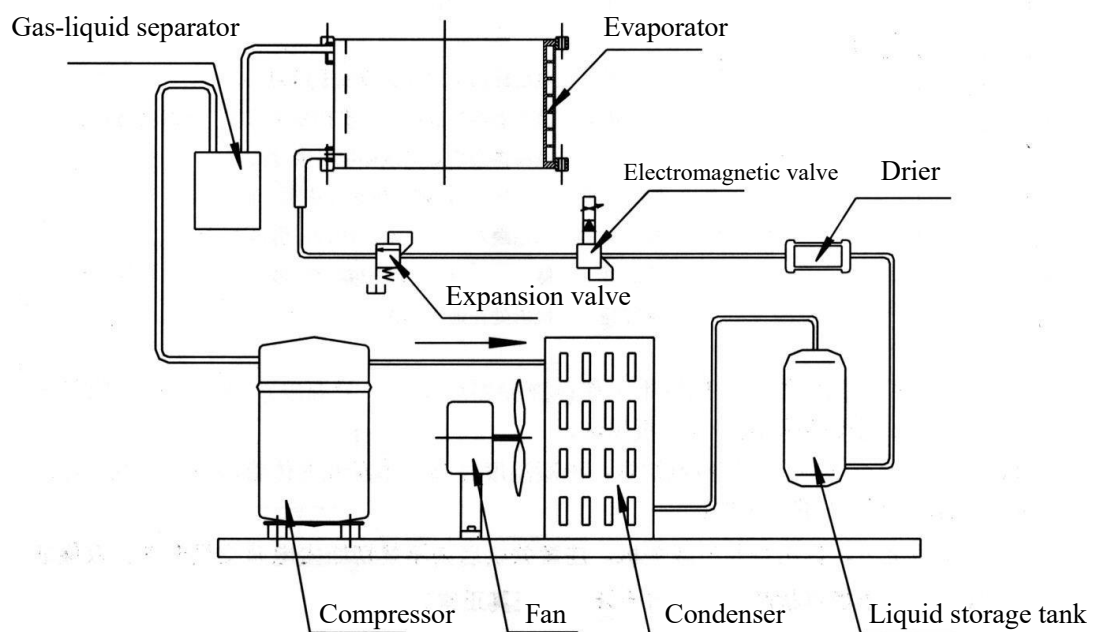

Figure 5
1. Refrigerant System (See figure 5)